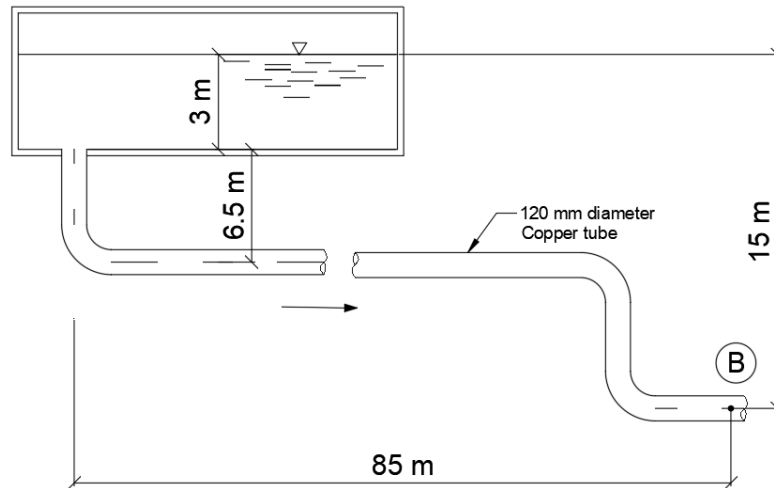

Figure 6 (Schematic drawing, not to scale)
- (c). Water at 28°C flows at the rate of 1200 L/min from a reservoir as shown in **Figure 6**. Calculate the pressure at Point B (neglect all losses).